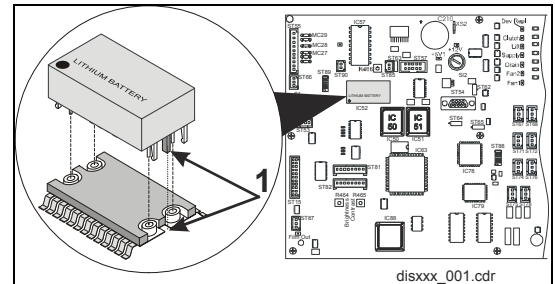

Figure 3: Replacing the battery
- (3) Pull the battery straight up to remove it, see Figure 3: Replacing the battery.
- (4) Insert the new battery in the correct position according to socket notch (1). Do not distort the battery when pressing it down!